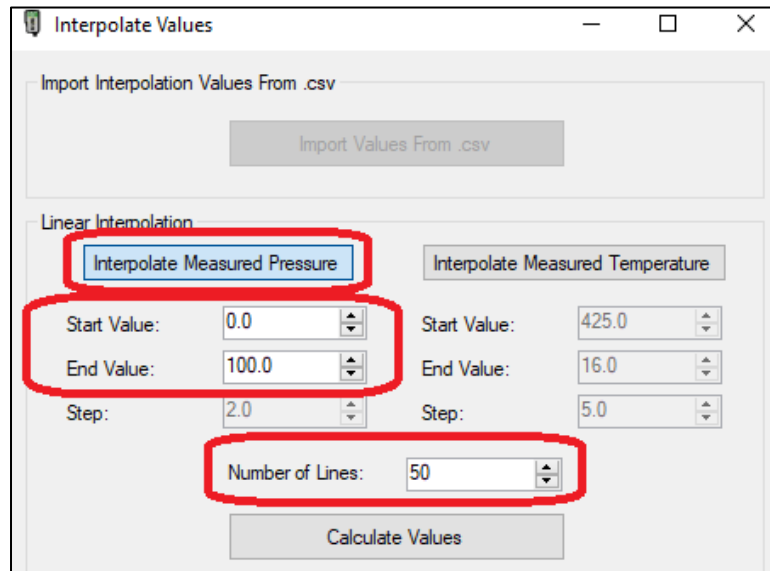

FIGURE 6-27 HHT TEST PATTERN GENERATOR SOFTWARE – INTERPOLATE MP (# OF LINES)
STEP 1	To select the number of IRDI messages to be calculated, do the following – see Figure 6-27 below: a. Click on the “Interpolate Measured Pressure” button – the button will turn blue b. Click on the “Start Value” field, and enter a value at which to start the interpolation c. Click on the “End Value” field, and enter a value at which to end the interpolation d. Click on the “Number of Lines” field, and enter the number of IRDI messages (lines) that you would like to generate